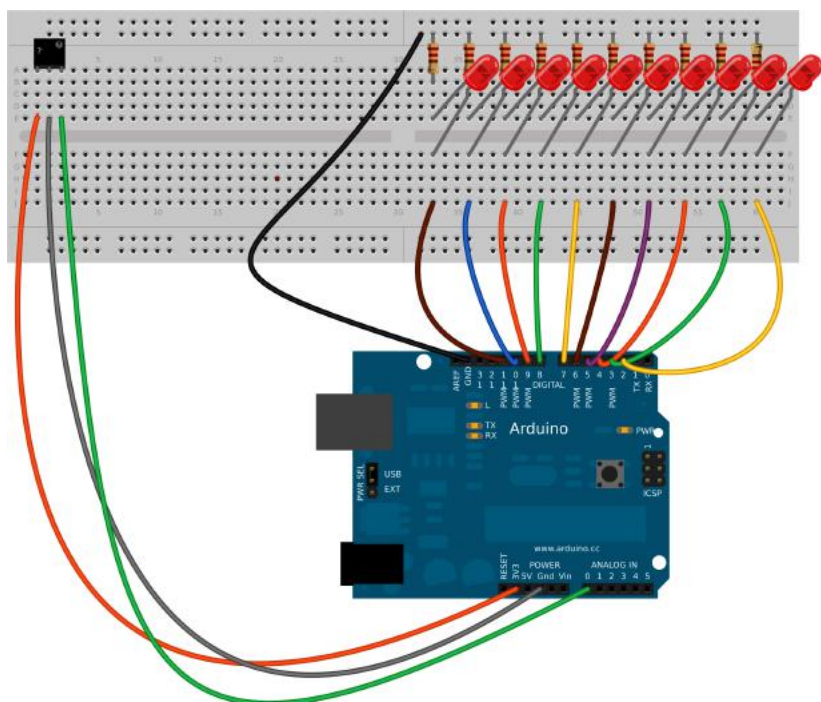

Figure 2-3. The noise sensor plugged to the breadboard, with jumper wires leading from its GND, power, and DATA pins.
Step 1 Plug the microphone into the breadboard (see Figure 2-3).